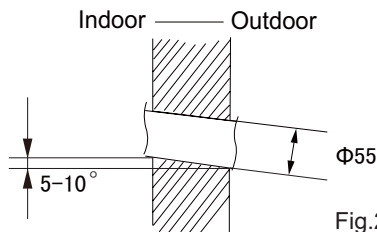

Fig.2
(2) Open a piping hole with the diameter of Φ55 on the selected outlet pipe position. In order to drain smoothly, slant the piping hole on the wall slightly downward to the outdoor side with the gradient of 5-10°. (As show in Fig.2)